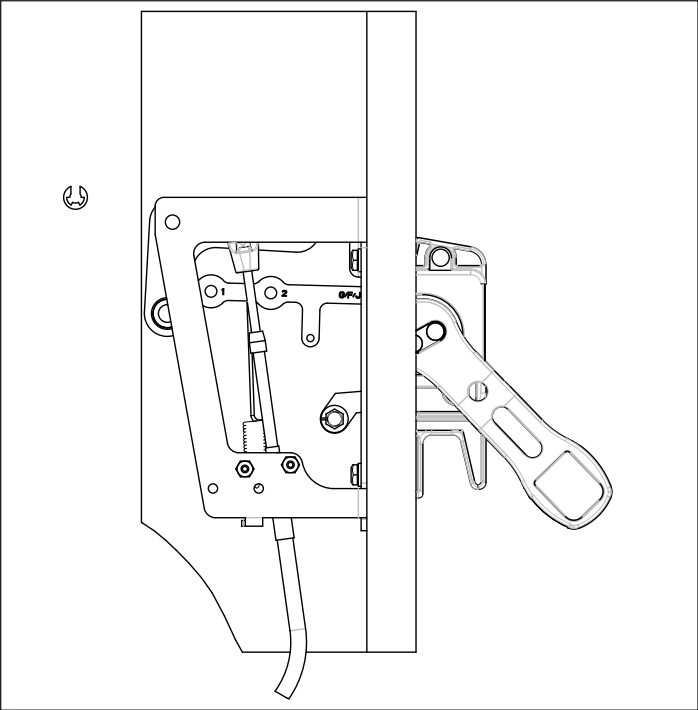

Figure 7. Assembly of Adapter Link to Actuator Link.
7. Rotate the bell crank towards the handle and rotate the outer handle to the "On" position. Align the actuator link (hole that is marked "1") and attach it to the bell crank. Secure it using an "E"-Ring (see Figure 7).